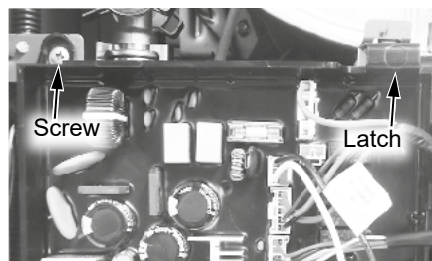

Figure 2 - Control board location
- 6 Locate the screw securing the control board panel. Use a Phillips screwdriver to remove the screw and place it aside in a safe place for reinstallation. See Figure 2.